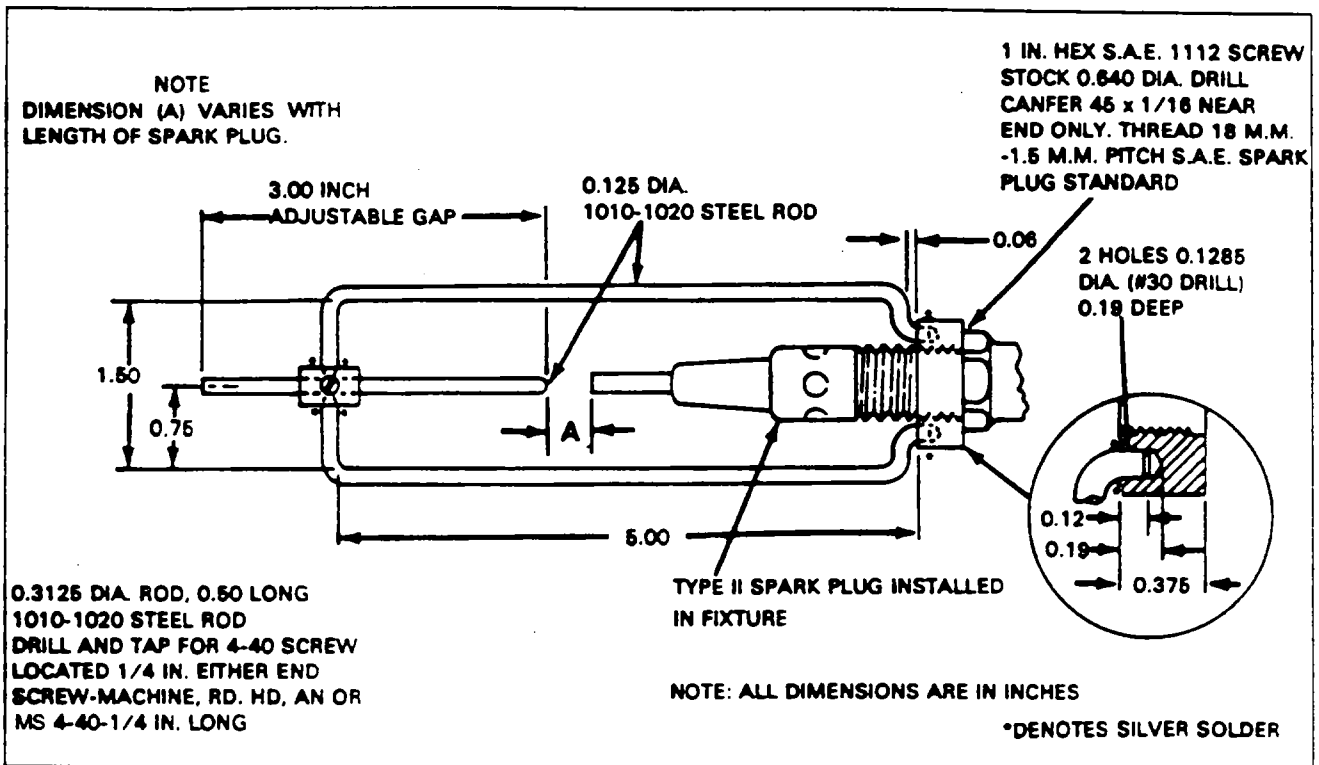

Figure 21-9. Spark Plug Fixture
4. A spark gap of 0.187 inch \pm 0. A convenient means of arranging the correct spark gap is to install a spark plug, P/N 39D18, in a test fixture arranged to provide a ground electrode and a .187 inch spark gap. (Refer to Figure 21-9 for information on fabricating this fixture.)
Any one of several spark plugs may be used with the spark plug fixture detailed in Figure 21-9. However, the "A" dimension in that sketch must be varied with the length of spark plug electrode to provide a gap of .187 inch for all spark plugs.